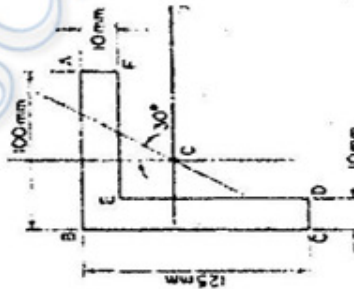

Fig. Q. 12 (b)
- (b) An Angle section in fig. Q. 12 (b) is subjected to $M_x = 20$ KNm and $M_y = 15$ KNm, Find maximum bending stress.